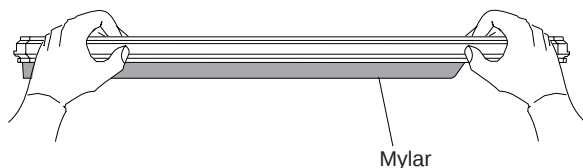

Figure 158. Grasping Paper Bail
5. To remove the paper bail, grasp it as shown in Figure 158. Rotate the paper bail toward the front of the printer until the pivot posts on the sides can disengage.
3. Grasp the paper bail, as shown in Figure 158.